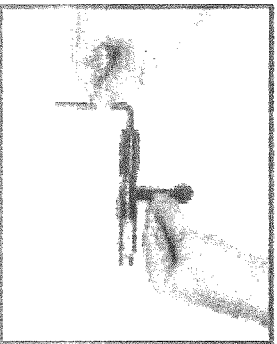

Figure 13
3. Using the allen wrench provided, unscrew the bolt cap by turning counterclockwise. The spring, striker, bolt handle, and bolt body will now come apart (Figure 13).